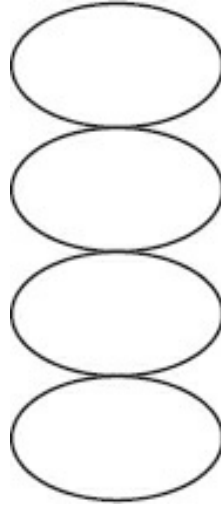

Figure R3-4.
2. The standard frequency is 5 kHz. Using Figure R3-4, what is the unknown frequency